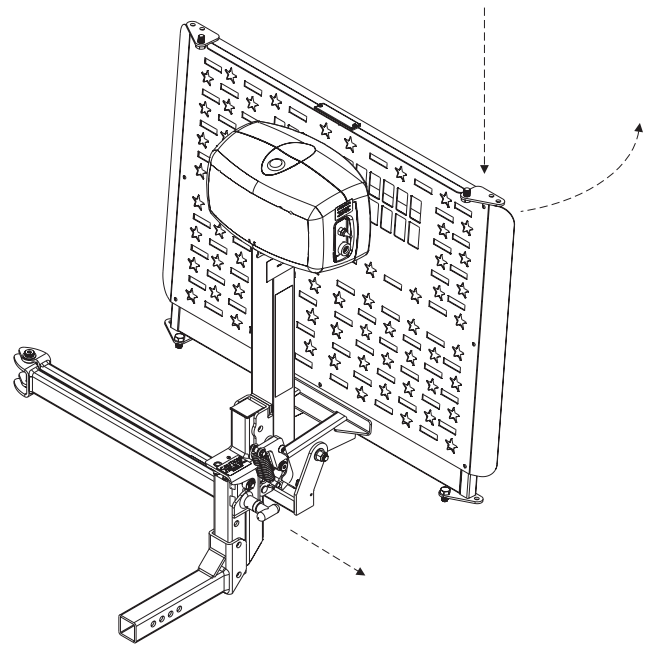

Figure 3-11
**NOTE:** On the AL105L model, the platform must be pushed down and away from the vehicle to release the latching mechanism. See Figure 3-11.